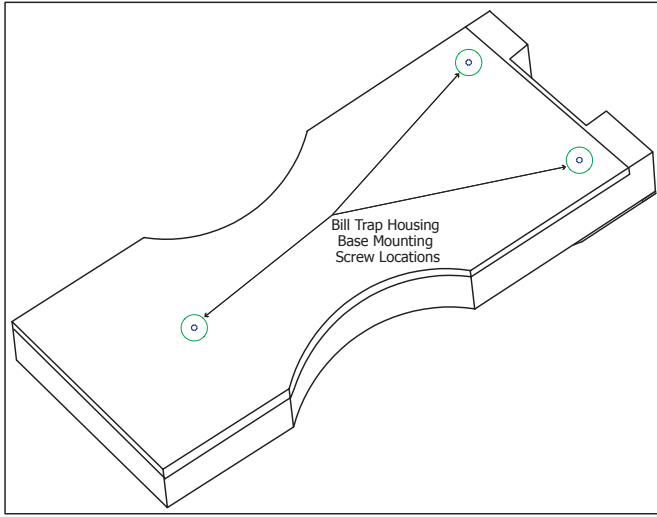
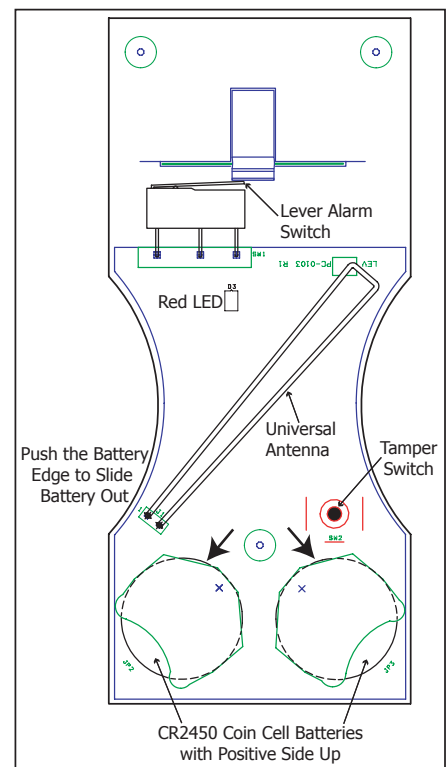

Figure 2: Bill Trap Base and Mounting Screw Locations
Figure 3: Bill Trap Battery Locations
**Note:** Refer to Figure 2 to remove the 1139 housing base and Figure 3 for the 1139 PCB LED and tamper switch locations.
1. Use a Phillips screwdriver to remove the three screws holding the base and housing together. See Figure 2.
3. If installed, push and slide each old battery out of the holder in the direction of the arrow to remove it. See Figure 3.